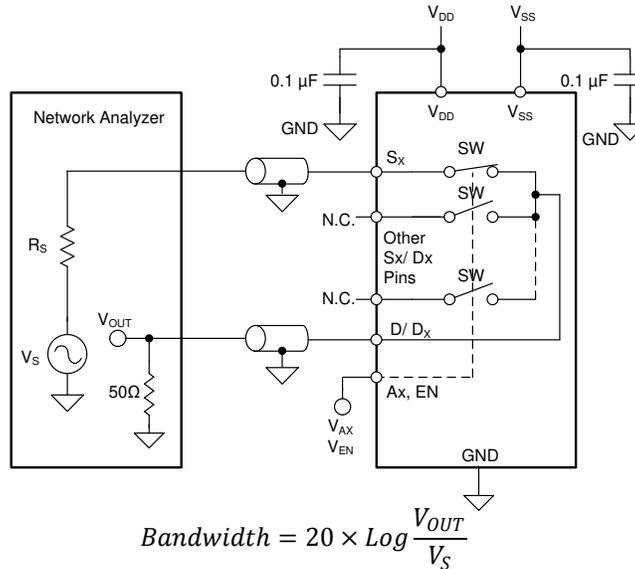

Figure 7-11. Bandwidth Measurement Setup
Bandwidth (BW) is defined as the range of frequencies that are attenuated by < 3dB when the input is applied to the source pin (Sx) of an on-channel, and the output is measured at the drain pin (D or Dx) of the MUX80x-Q1. Figure 7-11 shows the setup used to measure bandwidth of the switch.